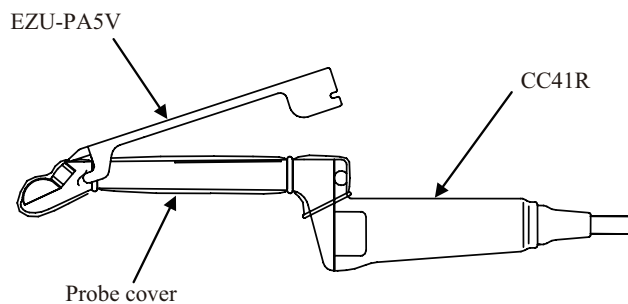
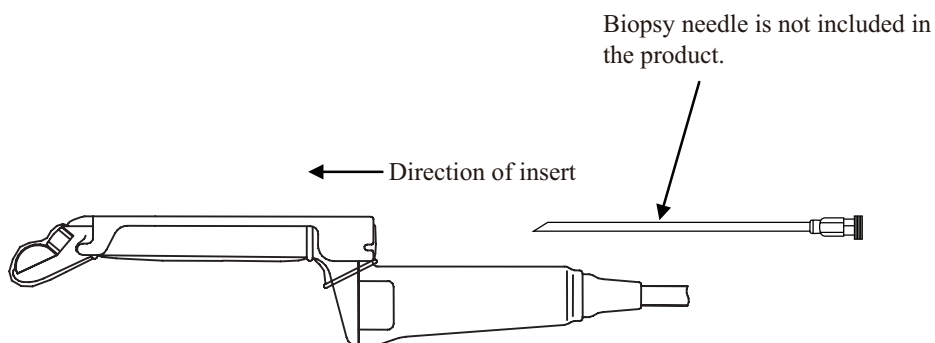

Figure 4 How to attach Sterile Puncture Adapter
Figure 5 Needle insertion direction
- (1) Mount a probe cover on the probe as stated in the section 4-1.
- (2) Put the picks of the sterile puncture adapter to the grooves on the tip of the probe (Figure 4).
- (3) Push the other end of the sterile puncture adapter until fix the dents of the sterile puncture adapter to the projection on the probe.
- (4) Display the puncture guideline before inserting the needle into the puncture adapter. Refer to the section 4-5 for the guideline. The needle insertion direction is shown in Figure 5.